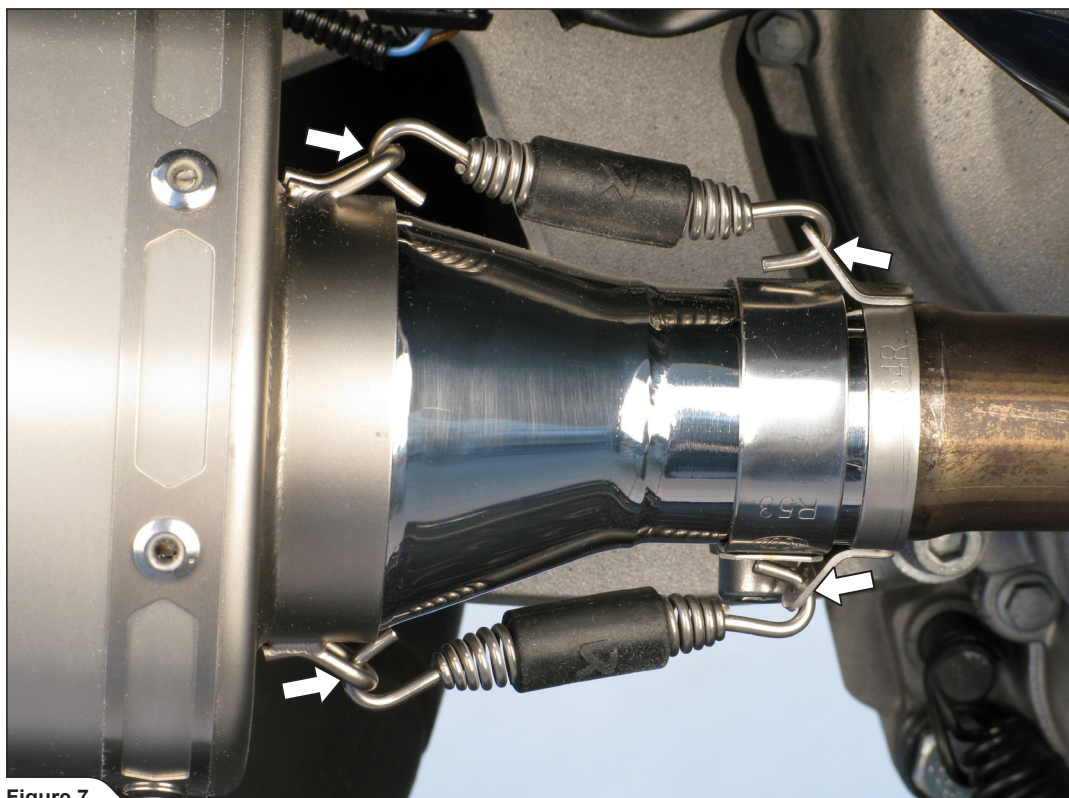

Figure 7
6. Install the springs, as shown (Figure 7).